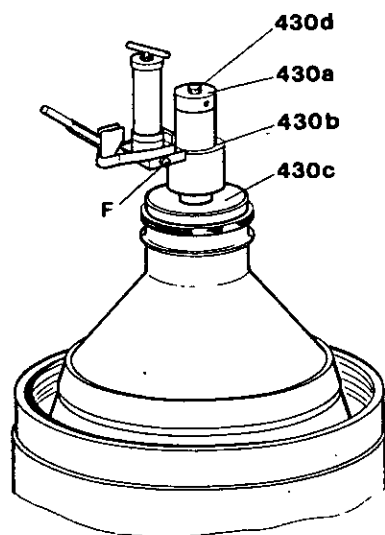

Fig. 4/3b
- 14) Before screwing in the bowl lock ring, compress the disc stack by means of compressing device 430 (fig. 4/3b) in the following manner (see also sect. 4.6):